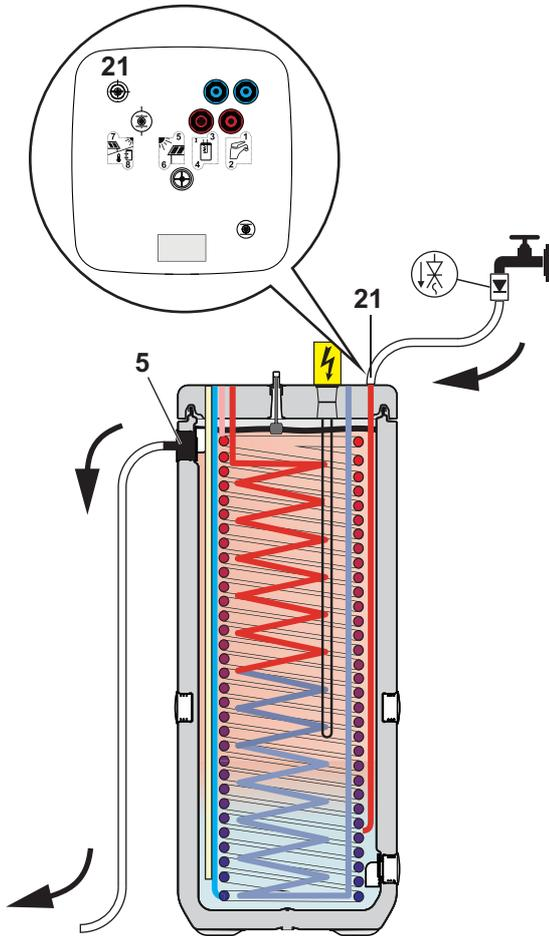

Fig. 3-4 Filling the buffer storage tank - without $p=0$ solar system and without KFE filling connection
- Connect the filling hose with backflush prevention (1/2") to the connection "DrainBack solar - feed" (fig. 3-4, item 21).
- Fill the storage tank on the Daikin EKHWP **until water comes out of the safety overflow** (fig. 3-4, item 5).